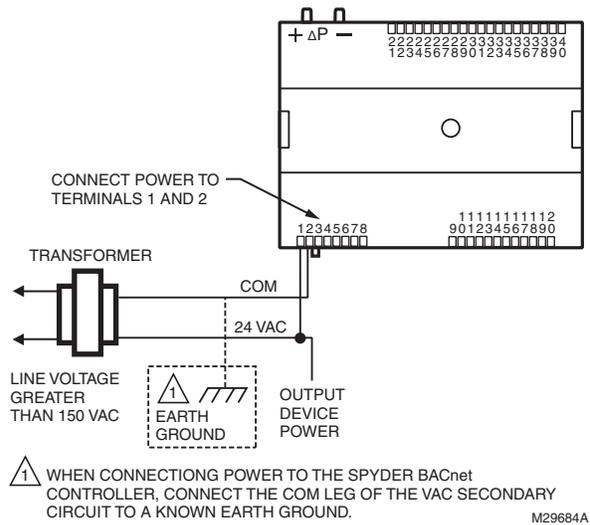
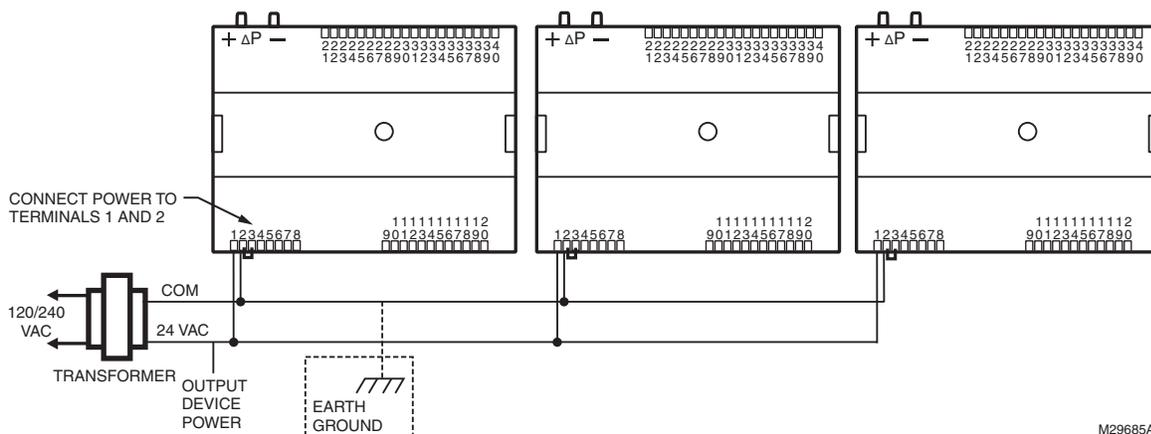

Fig. 11. Power wiring details for one controller per transformer.
Fig. 12. Power wiring details for two or more controllers per transformer.
- When multiple controllers operate from a single transformer, connect the same side of the transformer secondary to the same power input terminal in each device. The earth ground terminal (terminal 3) must be connected to a verified earth ground for each controller in the group (see Fig. 12 on page 10).
See Fig. 11–Fig. 12 beginning on page 10 for illustrations of controller power wiring. See Table 4 for VA ratings of various devices.
- For multiple controllers operating from a single transformer, the same side of the transformer secondary must be connected to the same power input terminal in each device. The earth ground terminal must be connected to a verified earth ground for each controller in the group (see Fig. 12 on page 10). Controller configurations are not necessarily limited to three devices, but the total power draw, including accessories, cannot exceed 100 VA when powered by the same transformer (U.S. only).
- See Fig. 11 on page 10 for controller power wiring used in UL 1995 equipment (U.S. only).
- Keep the earth ground connection wire run as short as possible (refer to Fig. 11–Fig. 12 beginning on page 10).
- Do not connect earth ground to the controller’s digital or analog ground terminals (refer to Fig. 11 and Fig. 12).
- For multiple controllers operating from a single transformer, the same side of the transformer secondary must be connected to the same power input terminal in each controller. Controller configurations will not necessarily be limited to three devices, but the total power draw, including accessories, cannot exceed 100 VA when powered by the same transformer (U.S. only). For power and wiring recommendations, See “Power” on page 7. The earth ground terminal (terminal 3) must be connected to a verified earth ground for each controller in the group (see Fig. 12 on page 10).
Fig. 11 depicts a single controller using one transformer.
Connect terminal 2, (the 24 Vac common [24 VAC COM] terminal) to earth ground (see Fig. 11).
More than one controller can be powered by a single transformer. Fig. 12 shows power wiring details for multiple controllers.